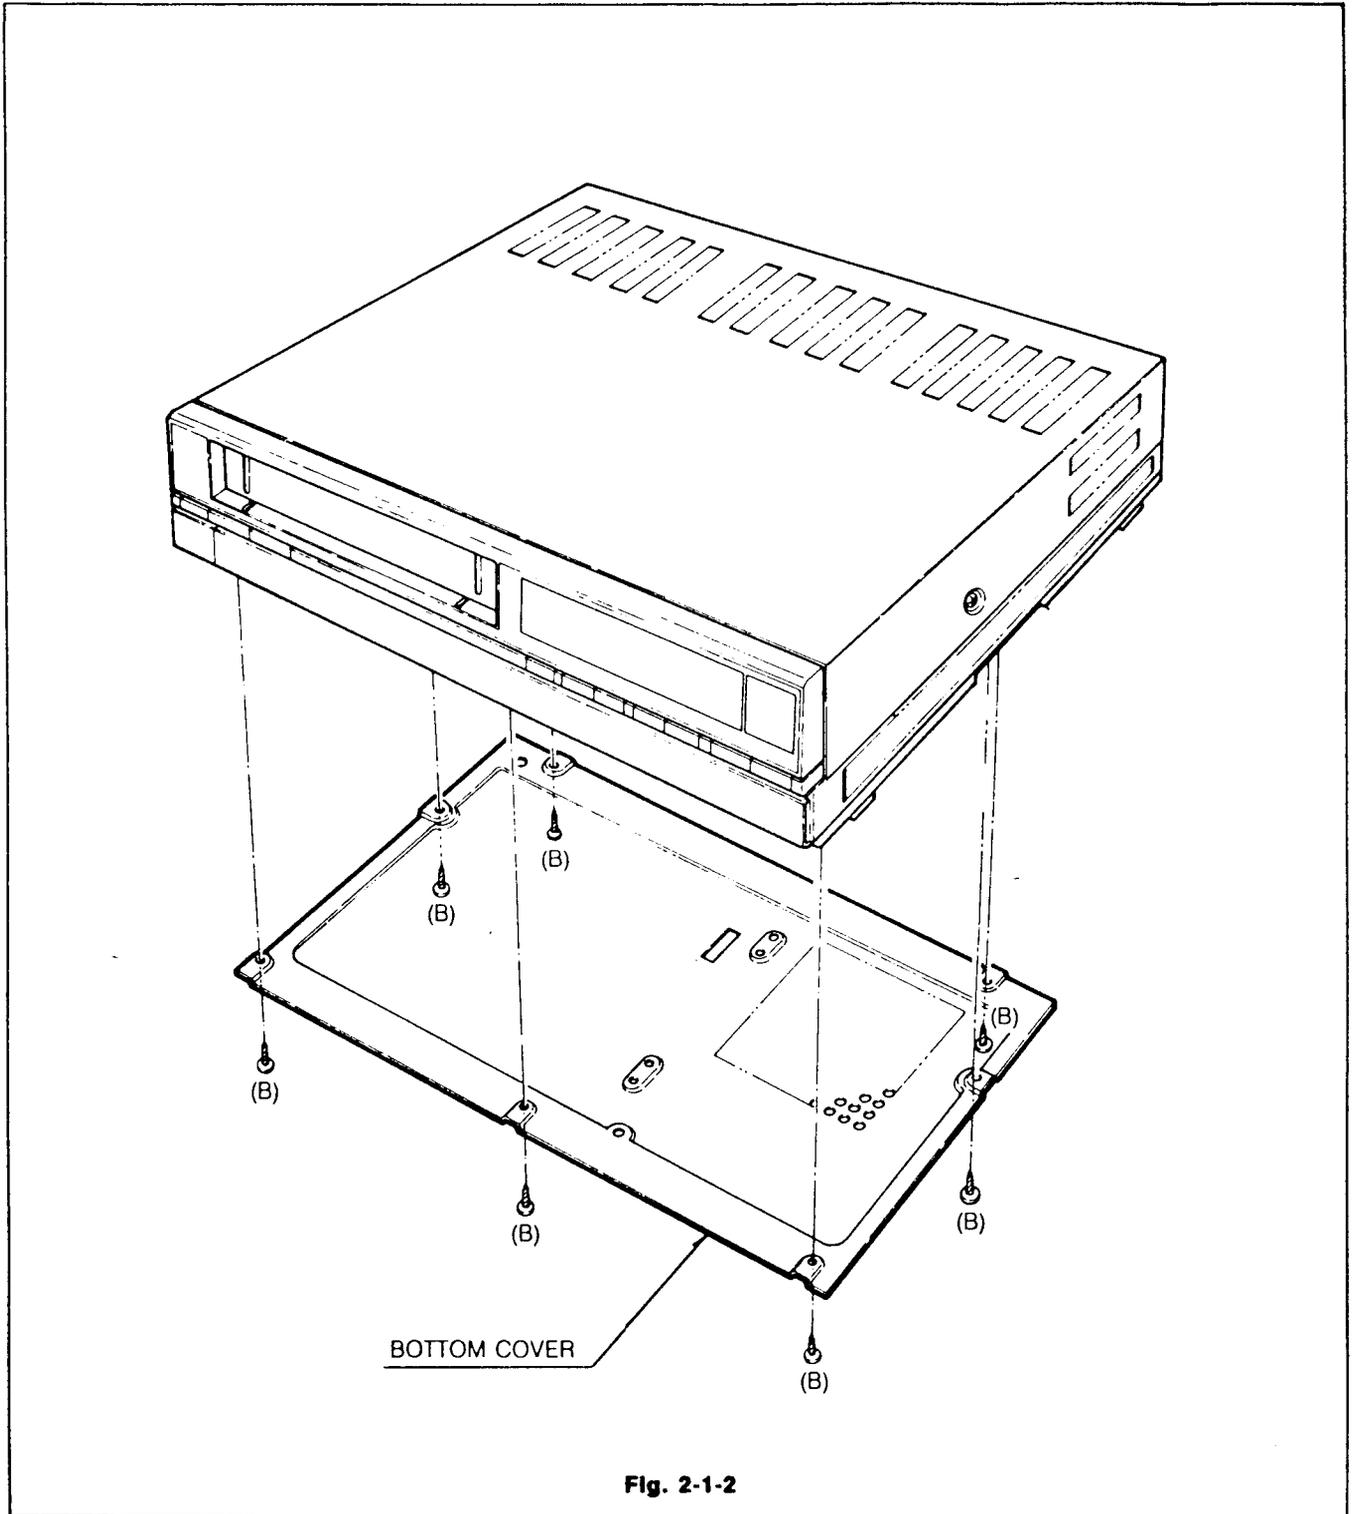

Fig. 2-1-2
(See Fig 2-1-2)
- B. Remove the Bottom Cover. (See Fig. 2-1-2)